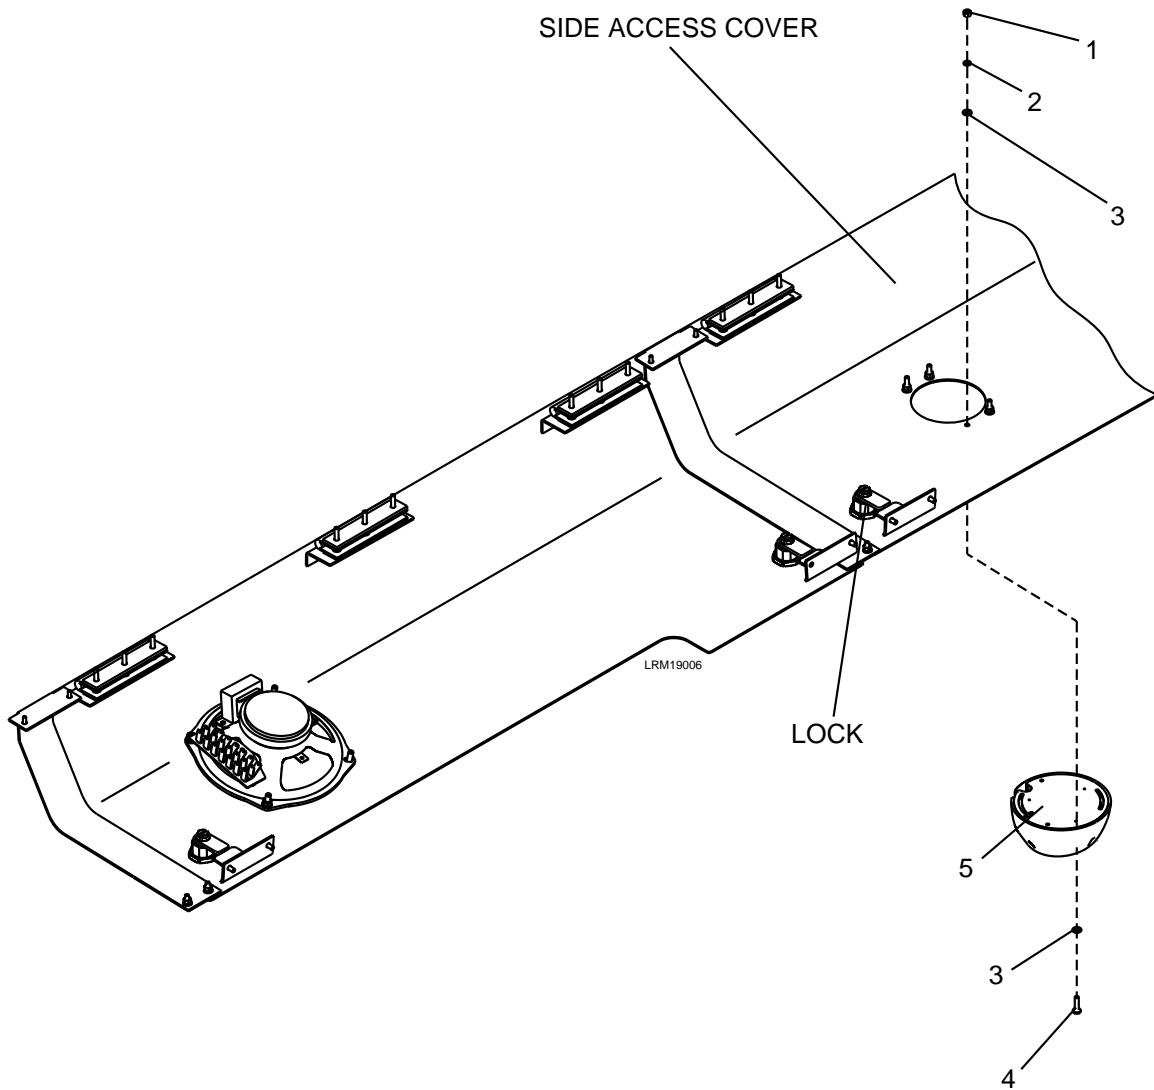

Figure 7-3: Interior View Camera
2. Disconnect the wiring from the Interior View Camera (5). See Figure 7-3.
3. Remove the four M4 nuts (1), M4 lock washers (2), eight M4 plain washers (3) and M4 x 16 screws (4).
4. Remove the Interior View Camera (5).
2. Align the holes in the Interior View Camera (5) with the holes in the side access cover. See Figure 7-3.
3. Insert the eight M4 plain washers (3), four M4 x 16 screws (4), M4 lock washers (2) and M4 nuts (1) and tighten.
4. Connect the wiring to the Interior View Camera (5).